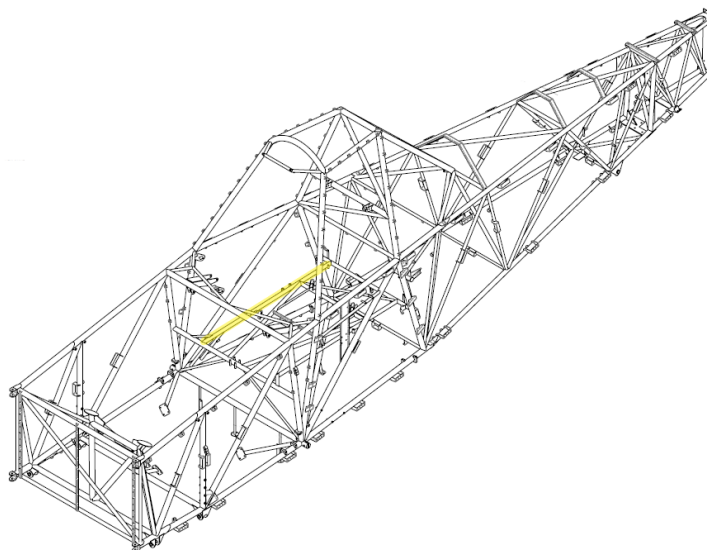

Figure 6: Location of Relay Assembly Installation
11. Remove fuselage side skins as necessary to gain access to location shown in Figure 6. Install Turn Light Relay Assembly 90356-027 on 10601-021 as shown in Figures 6 and 7.